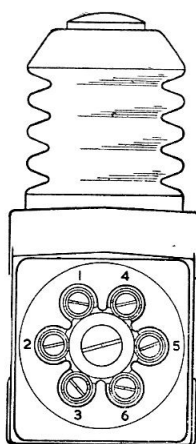
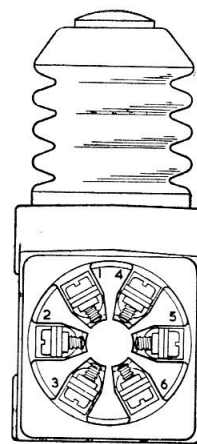

Fig. 3. S.B.A.C. terminal arrangement
Fig. 4. 6 B.A. terminal arrangement
9. For electrical purposes the switches are provided with either six sockets accepting S.B.A.C. type crimped-on ferrules locked by one 4. B.A. screw (fig. 3), or six 6 B.A. shrouded terminal screws (fig. 4). When the S.B.A.C. type terminal arrangement is used, spare ferrules should be fitted in the unused terminal positions to ensure that all terminals are secure when the centre screw is tightened.